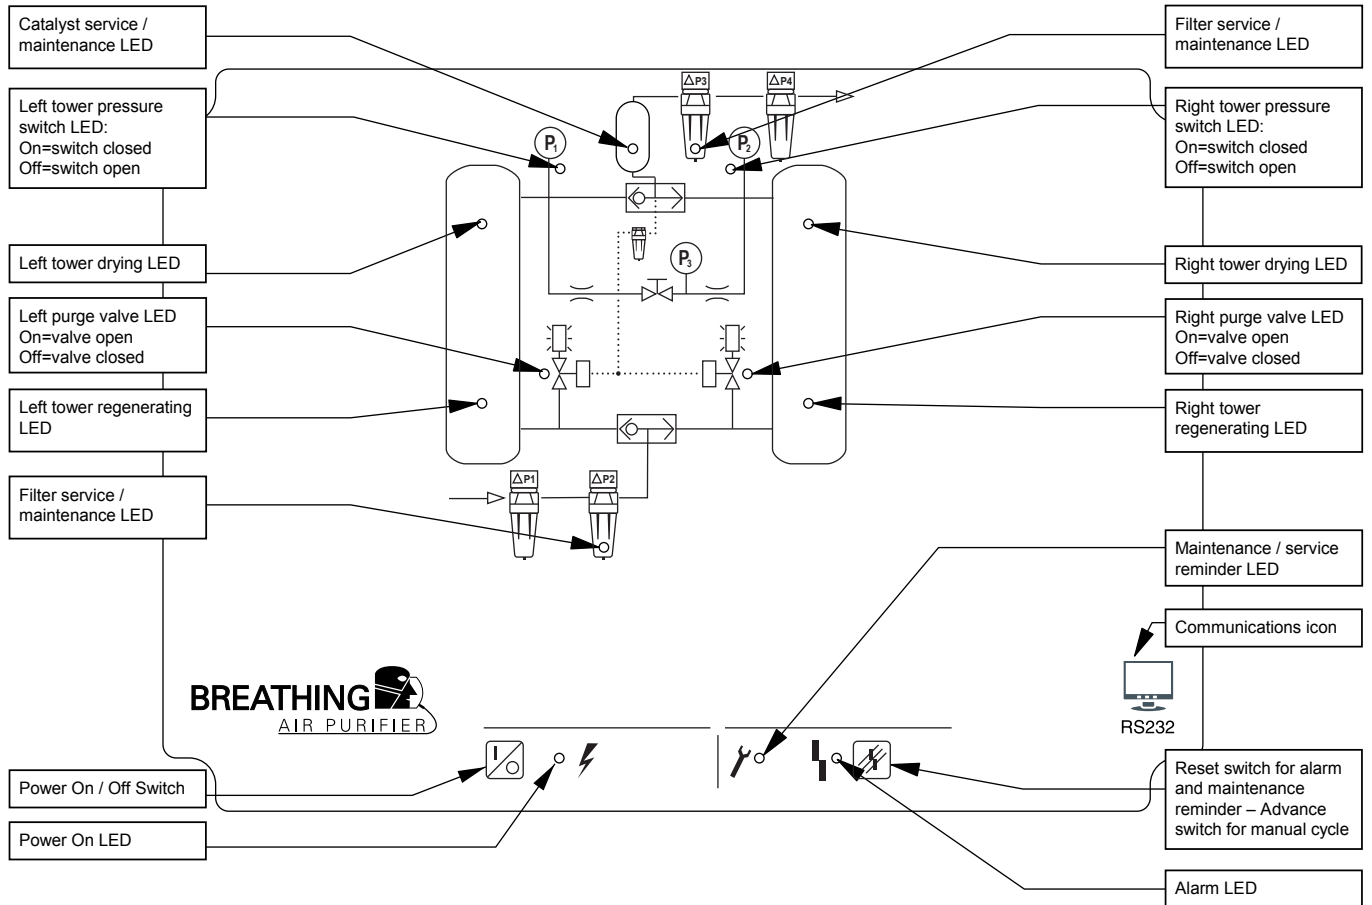

Figure 6-1
- Figure 6-1, Front Panel Overlay – Standard Controller
The front panel contains two momentary-contact push button switches. Refer to Figure 6-1, Front panel Overlay – Standard Controller for the appropriate icon associated with each switch. Pushing on the overlay icon actuates the switch. Switching can be affected remotely by wiring external pushbuttons to the J2 terminals located on the rear of the display board. Refer to Section 6.2.4.